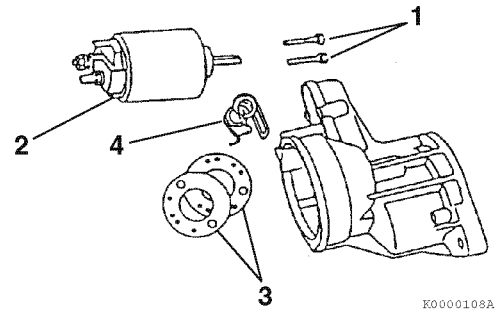

Figure 11-7
7. Remove the two M6 bolts (1, **Figure 11-7**) retaining the magnetic switch assembly (2, **Figure 11-7**) to the gear housing. Remove the magnetic switch assembly, dust cover(s) (3, **Figure 11-7**) and torsion spring (4, **Figure 11-7**) from the gear housing.